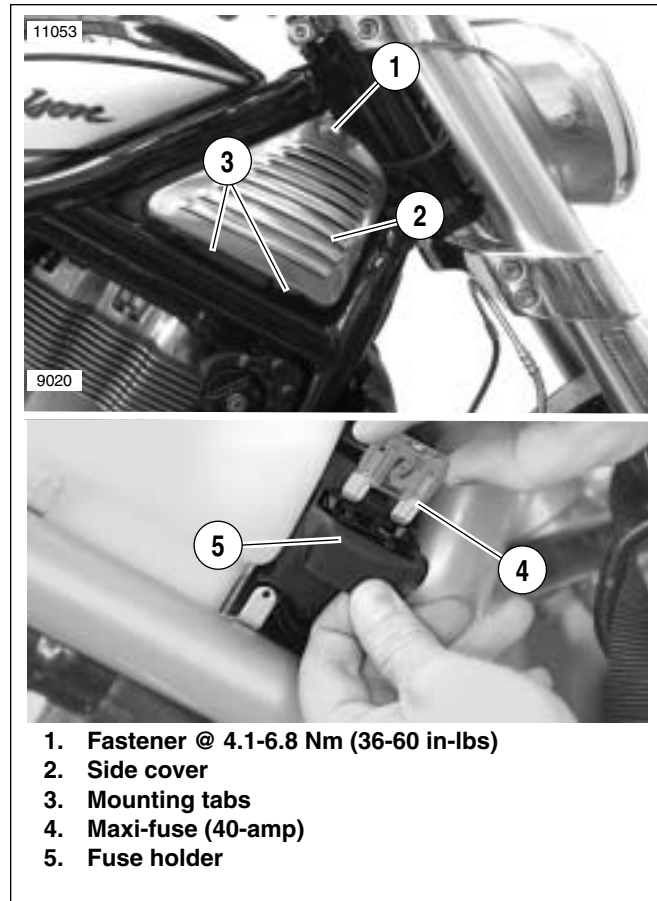

Figure 8-6. Maxi-Fuse Removal and Replacement
1. See Figure 8-6. Remove the fastener (1) securing the side cover (2). Carefully lift the side cover off the mounting tabs (3) and set it aside.
2. Grasp the fuse holder (5) in one hand, the plastic body of the maxi-fuse (4) in the other, and pull the maxi-fuse straight out of the fuse holder.